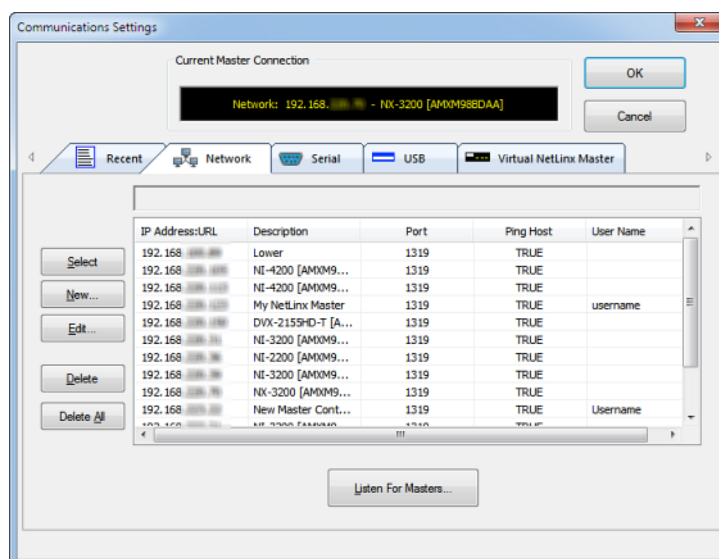

FIG. 17 Communications Settings dialog - Network tab
4. Select the Network tab (FIG. 17).